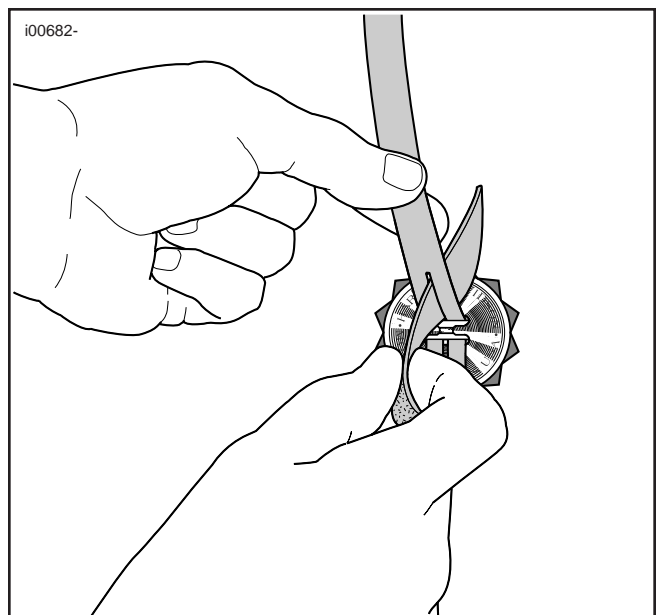

Figure 3. Slip Bottom Half Through Top Half
3. See Figure 3. Note the slits in the leather tie. Hold the top half of the tie toward you, then slip the bottom half of the tie up and through the slit in the top half.